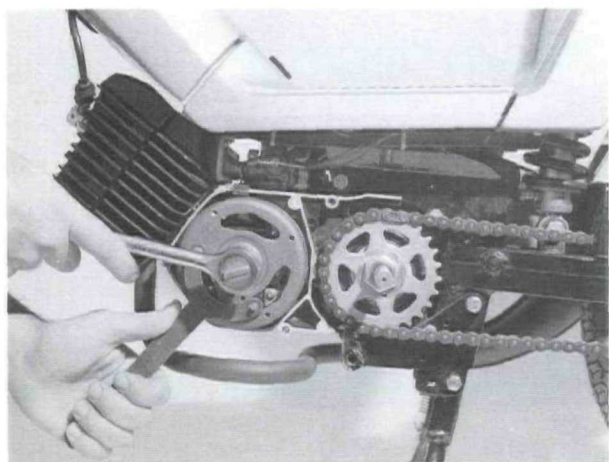

Fig. 12
- flywheel nut (socket wrench 17, flywheel holder=special tool 732.202=fig. 12)